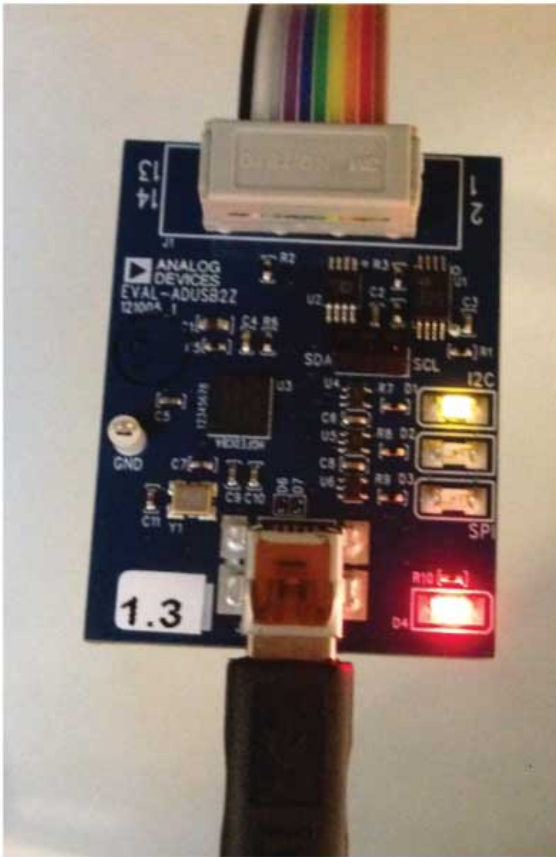

Figure 8. State of USBi Status LEDs After Driver Installation
- 1. With the USBi still connected to the USB 2.0 port of the PC, check that both the yellow I²C LED and the red power indicator LED are illuminated (see Figure 8).